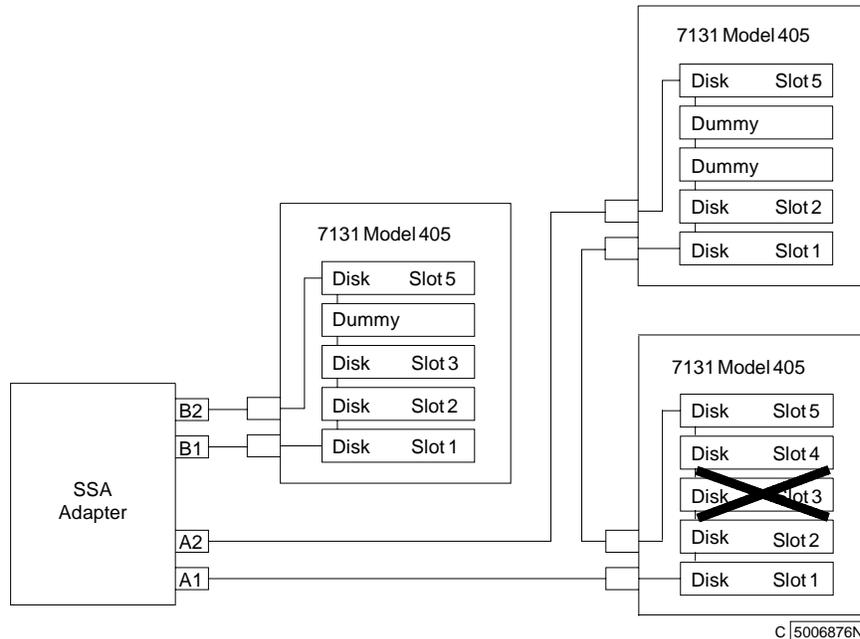

Figure 1-17. Broken Loop (Disk Drive Module Removed)
**Example 3 Broken Loop (Disk Drive Module Removed):** Figure 1-17 shows eight disk drive modules connected to connectors A1 and A2 of the SSA adapter, but the loop is broken because disk drive module in slot 3 has been removed. Four disk drive modules are connected to connectors B1 and B2 of the same SSA adapter.